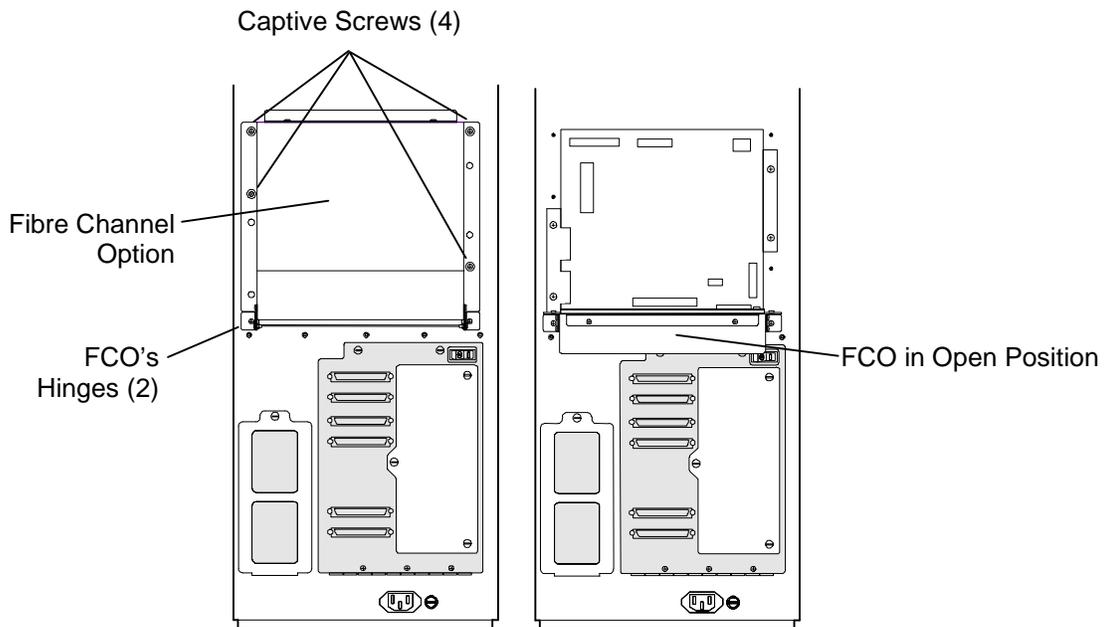

Figure 9-2 Fibre Channel Option in Closed and Open Positions
4. Using a Phillips screwdriver, loosen the four captive screws on the FCO (see Figure 9-2) and carefully guide the FCO backwards as it pivots on the hinges and comes to its open position. See Figure 9-2.